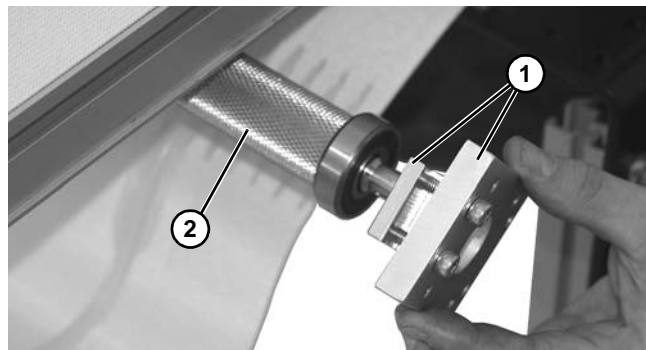

Figure 109
- Separate mounting blocks (**Figure 109, item 1**) from spindle (**Figure 109, item 2**).